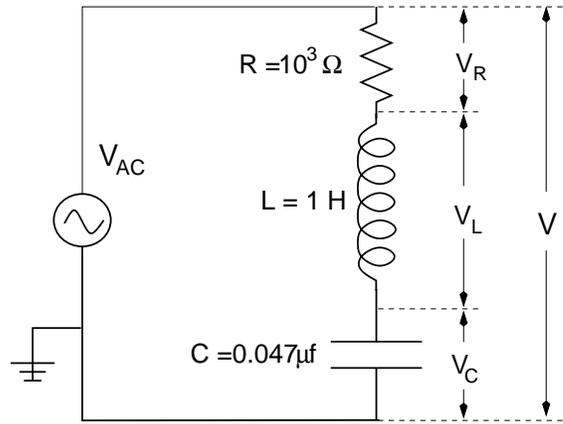

Figure 1: A series LRC circuit.
The impedance Z (in ohms) of any part of a circuit is the ratio of the rms voltage across that part and the rms current through that part: Because impedance is defined as a ratio of voltage/current, impedance is measured in ohms. If $\omega = 2\pi f$ and we measure L and C in henries and farads, respectively, then it can be shown that the impedance X_R of a resistance R is R and the impedance X_L (in ohms) of an inductance L is $X_L = \omega L = 2\pi fL$. and the impedance X_C (in ohms) of a capacitance C is $X_C = \frac{1}{\omega C} = \frac{1}{2\pi fC}$. It can also be shown that the impedance Z (in ohms) of an RLC series circuit (shown in Fig. 1) is
1. Hook up the circuit plug board as in Fig. 1. (The signal generator supplies V_{rms} (or V_{AC} .)